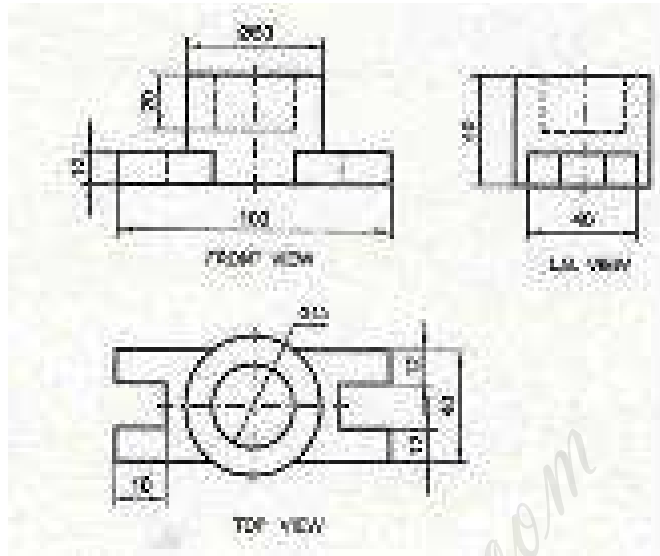

Figure 7
7. Three views of a machine part are shown in figure 7. Draw the isometric view of the part (all dimensions are in mm). [16]